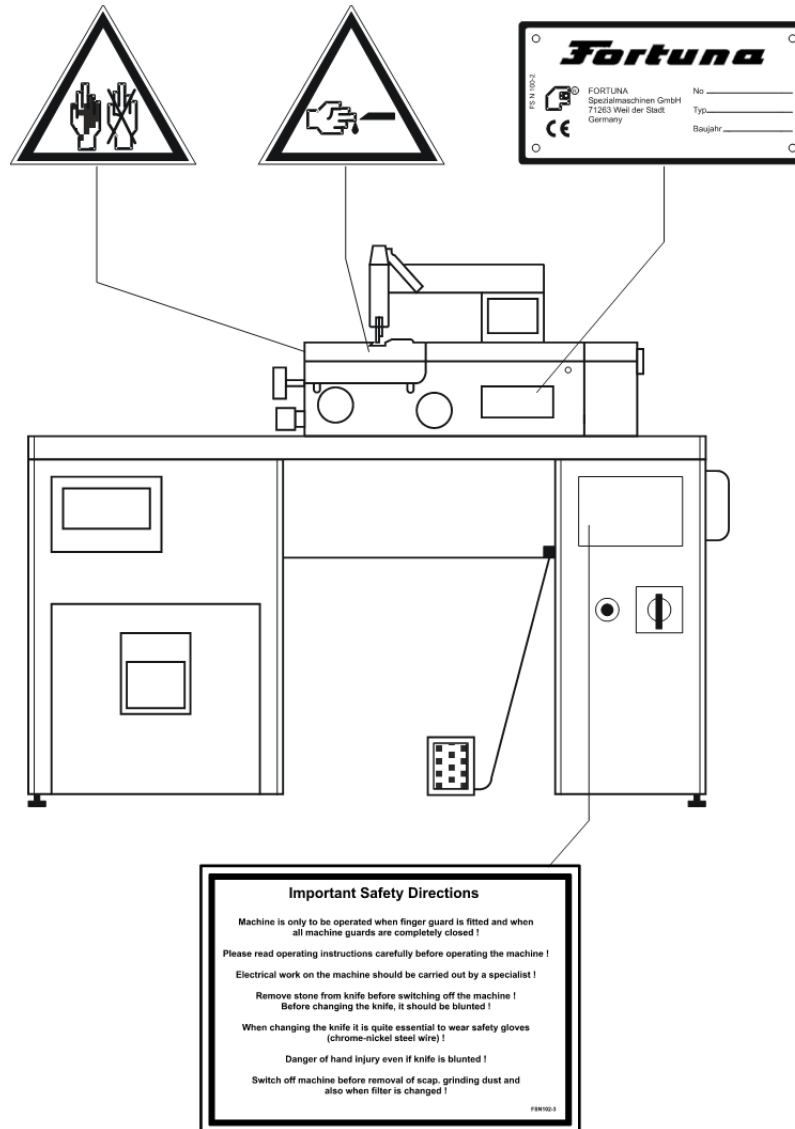

Figure 3: Safety informations and nameplate on the machine
- ⇒ Read and observe the safety rules indicated on the reference plates, please refer to Figure 3: Safety informations and nameplate on the machine (page 16).
- ⇒ Read, take care and observe all the safety reference marks on the machine, please refer Figure 3: Safety informations and nameplate on the machine (page 16).